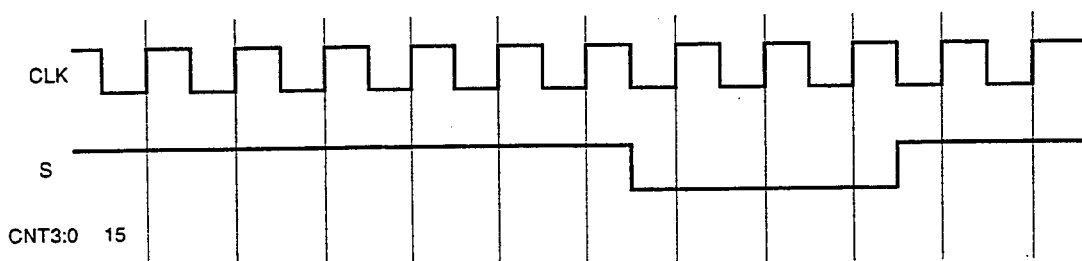

Figure 7.2
- a) Figure 7.2 shows the timing diagram for the signals CLK and S. Complete the timing diagram showing the signals CLK, S, X, SCLK and CNT3:0 given that N3:0 = 13. The initial state of CNT3:0 is 15 as shown.